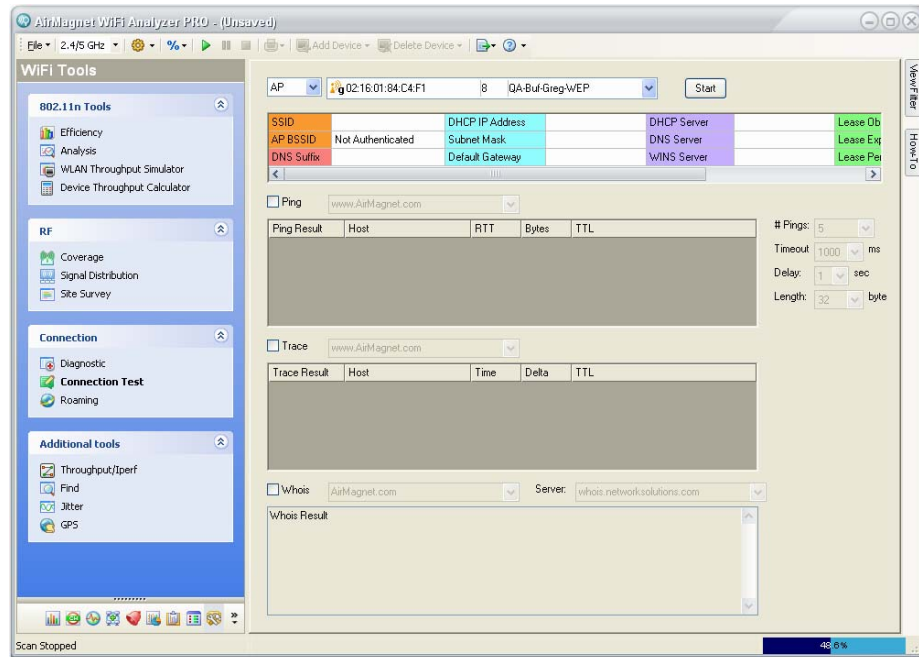

Figure 17-1: Connection Test
- 1) From the Tools screen, click  **Connection Test**. The Connection Test tool screen appears. See Figure 17-1.